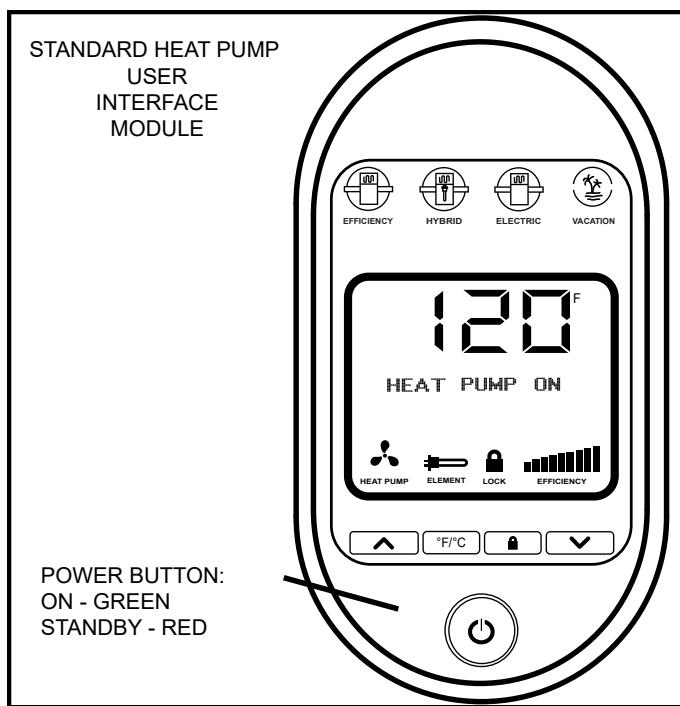

Figure 1. - 1st Generation Models
- Press the power button on the User Interface Module (UIM) to place the water heater in Standby Mode see Figure 1. (For 2nd Generation models , skip to step 2)